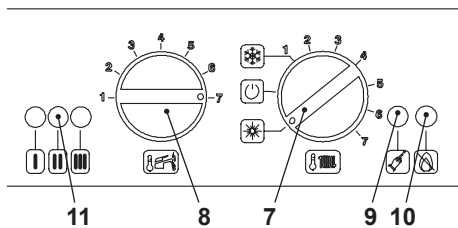

Figure 11.4
- 6 Set the function knobs as illustrated in Figure 11.4.
- 14 Set the function knob 8 as indicated in Figure 11.4. The appliance operation light on the left will flash every 4 seconds.
15 Keep pressed the reset button 9 for about 10 seconds (Figure 11.4) until the lock-out signal lamp 10 blinks.
22 Set the knob 8 to the maximum position as illustrated in Figure 11.4.